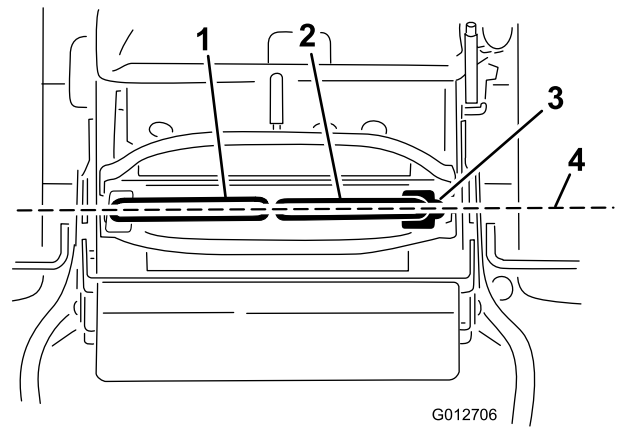

Figure 66
**Important:** Ensure that the tracking is correct after adjusting the motion-control levers (Figure 66).
1. After you finish the horizontal alignment, check the front-to-back alignment by slightly pushing the motion-control levers forward to take up any slack in the linkage for the control levers (Figure 66).